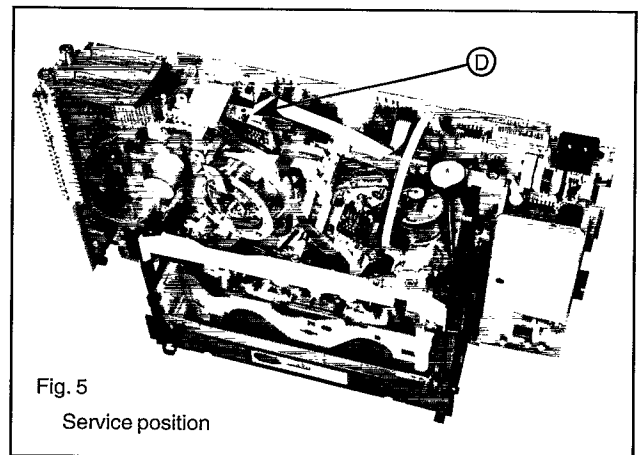
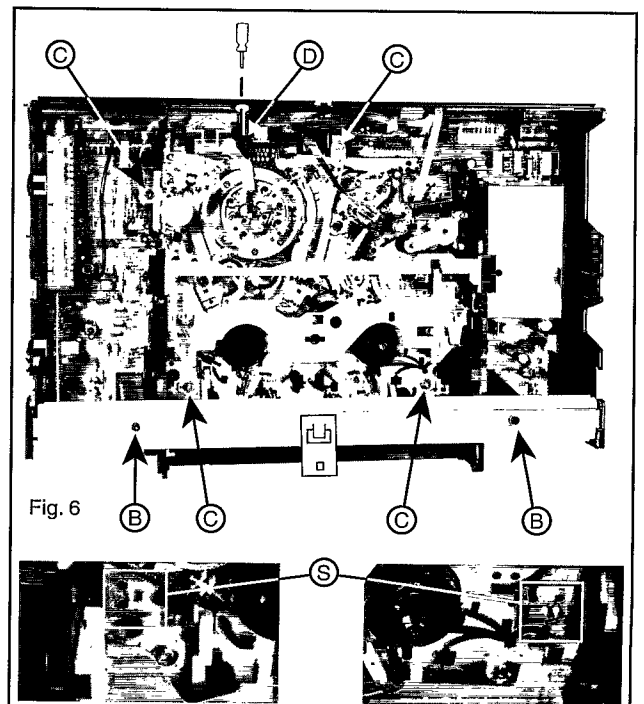

Fig. 5
Fig. 6
- Undo the two screws (B) of the stay and pull it up to remove it.
- Undo and remove the four fastening screws (C) of the drive.
- Detach the Cinch socket cable (K) and ground cable (M) from the socket print (if present).
- Undo the 10 catches (S) from the rear right to the rear front and then from the rear left to the front left.
- After the weight of the motherboard/drive unit has released it from the frame, the catch (S) at the mains socket has to be released for a second time.
- Turn the motherboard/drive unit and move it into the service position (Fig. 5), if necessary.
- Check that all 10 catches (S) are engaged.
- Secure the drive with the four holding screws (C).
- Push the stay onto the frame with the chamfered side facing to the rear and secure with both screws (B).
5. Dismantling the drive (Fig. 3)(Fig. 5)(Fig. 6)